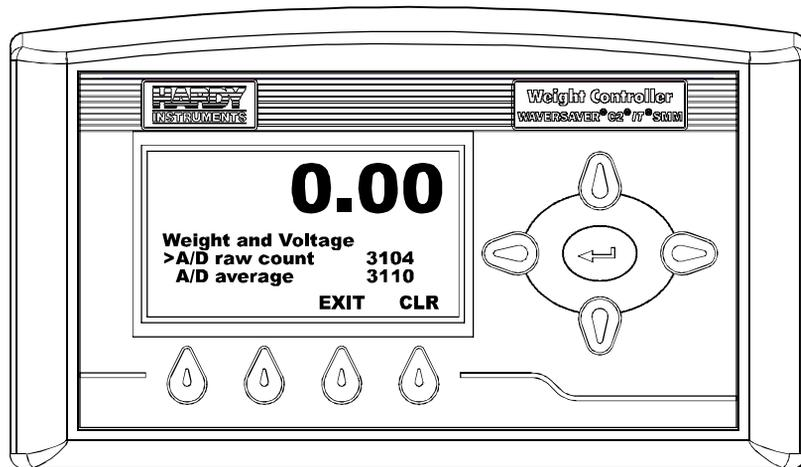

FIG. 399 WEIGHT AND VOLTAGE/READING RAW COUNTS AND AVERAGE
Step 16. To read the rest of the results, press the down button. (See Figs. 399 & 400)